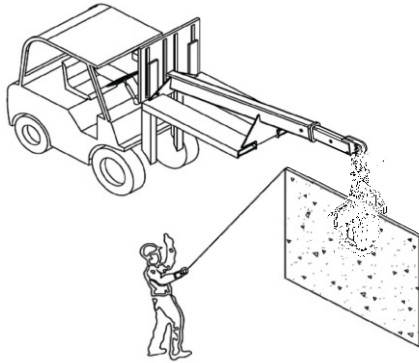

Figure 6.1
**Step 6:** Move the stone slab to the desired position (Figure 6.1).